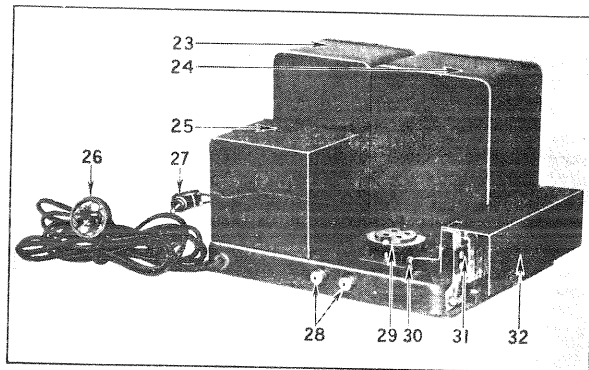

Fig. 5—Top of Socket Power Unit
4. **VOLTAGE SWITCH**—This two position switch shown in Fig. 5 is connected in the primary circuit of the power transformer in the socket power unit, and serves to compensate for high and low voltage in the power supply. *The proper setting of the switch at the time of installation is important and will effect the operation of the Radiola as well as the life of the Radiotrons.*
- Defective power transformer No. 24, Fig. 5.
- Shorted condenser unit No. 25, Fig. 5.
- Open choke No. 23, Fig. 5.